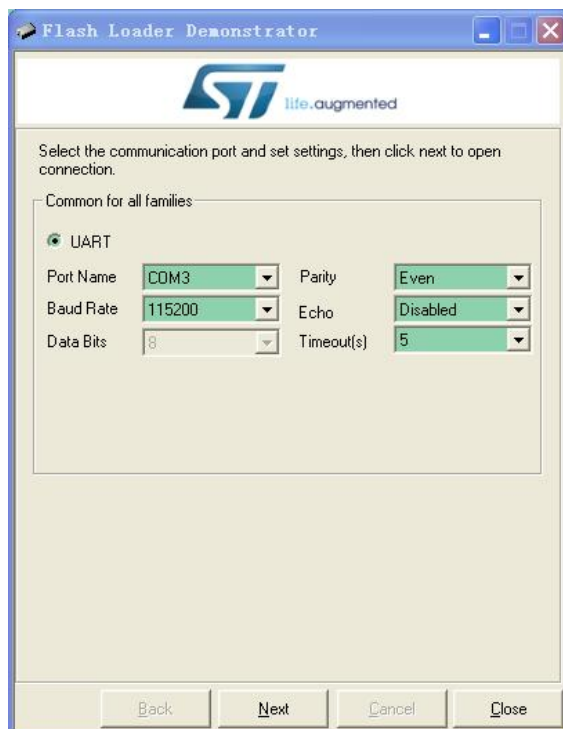

Fig. 5
- 3) Launch Flash Bootloader Demonstrator and proceed to the state as shown in Fig. 5. Here you need to setup some parameters for the serial connection. Please set the parameters to what illustrated in Fig. 5. For Port Name you need to choose the one corresponding to DSO SHELL. Find it out by plugging and unplugging the USB cable.